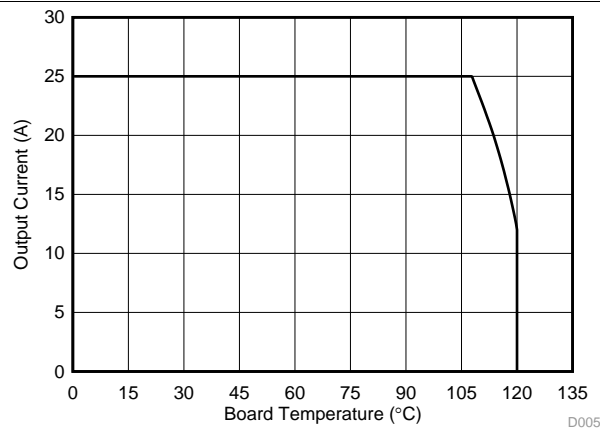

Figure 4. Typical Safe Operating Area⁽¹⁾
The SOA curves in the CSD87335Q3D data sheet provides guidance on the temperature boundaries within an operating system by incorporating the thermal resistance and system power loss. **Figure 4** outline the temperature and airflow conditions required for a given load current. The area under the curve dictates the safe operating area. All the curves are based on measurements made on a PCB design with dimensions of 4" (W) × 3.5" (L) × 0.062" (T) and 6 copper layers of 1 oz. copper thickness.